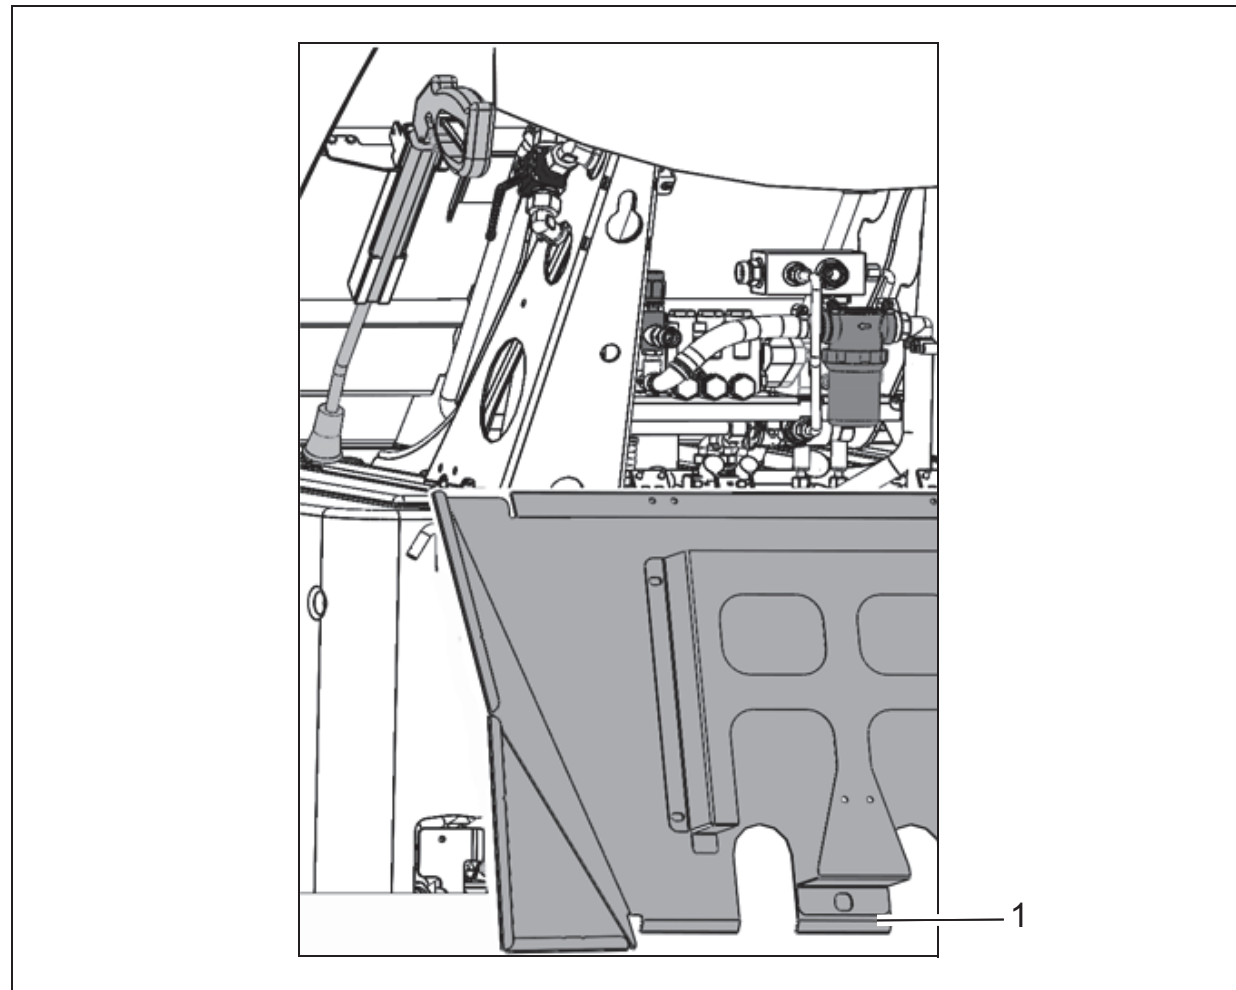

Fig.2
3. Open the rear flap (Fig. 2/1) with the square key and swing it up.